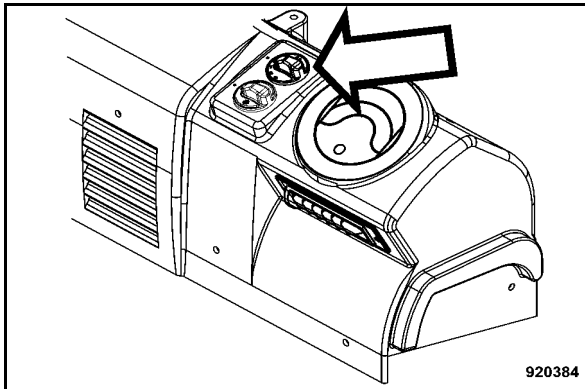

Fig. 155
- Turn the rotary switch for the cab ventilator (Fig. 155) to position "1".